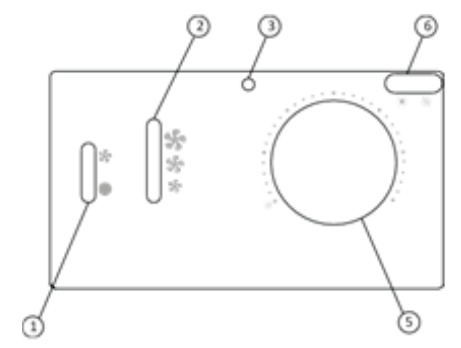

Fig. 1
**FAN-COIL CONTROLLER 2T** (Fig.1): Fan coils electronic controller suitable for models equipped with single heat exchanger (2-pipes plants), 3-speeds asynchronous electric motor connected to the fan, ON/OFF type valve, SUMMER/WINTER manual switch, ventilation consent on the basis of the water temperature (if necessary).
### Operating instructions and legend (Fig. 1):